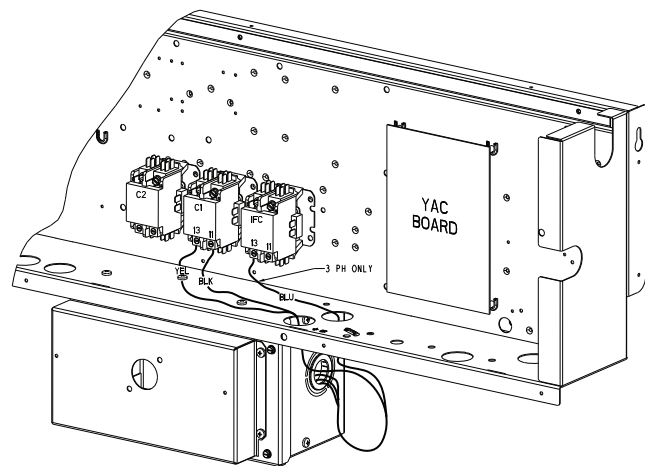

Fig. 35 — Location of Non-Fused Disconnect Enclosure
1. Remove the control box access panel. The NFD enclosure is located below the control box (see Fig. 35)